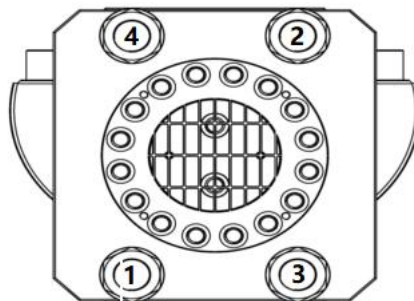

Figure 7-4 Tie Rod Tensioner
- 7.2.4 Loosen each small jack screw on each tensioner. Now move to the next "Superbolt tensioner diagonally across the extrusion cylinder, and repeat the procedure. It will require four full loosening circles around each of the tie rod tensioners to completely loosen the jackscrews to loosen the tensioners. See Figure 7-4 below for a pictorial description.
7.2.22 Adjust the Extrusion Cylinder Support Screw (refer back to Figure 7-4) until it seats against the large Support Block. Tighten the jam nut.